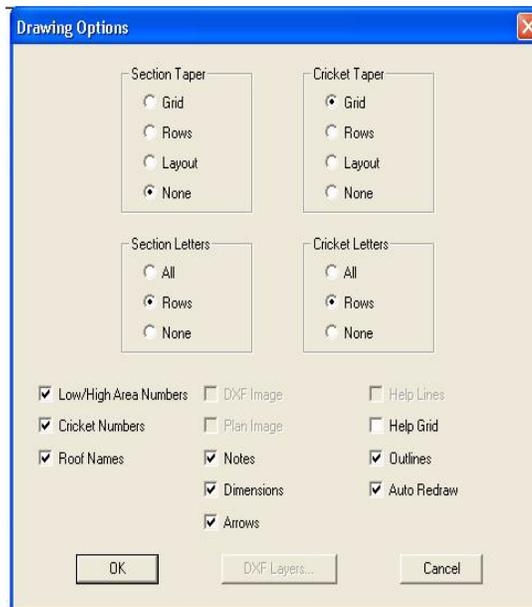

Figure 1-16 Drawing Options dialogue box
2. In the Section Taper area, click Short Arrows. And in the Section Letters area, click Rows, as shown in Figure 1-16.